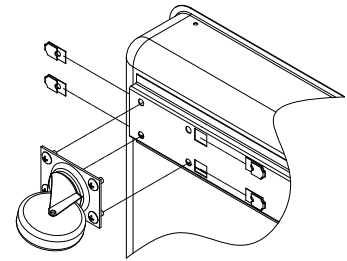

Fig. 1
- Place the unit on its side. Place the tinnerman nuts on the caster bracket on the bottom pan as shown in figure 1.